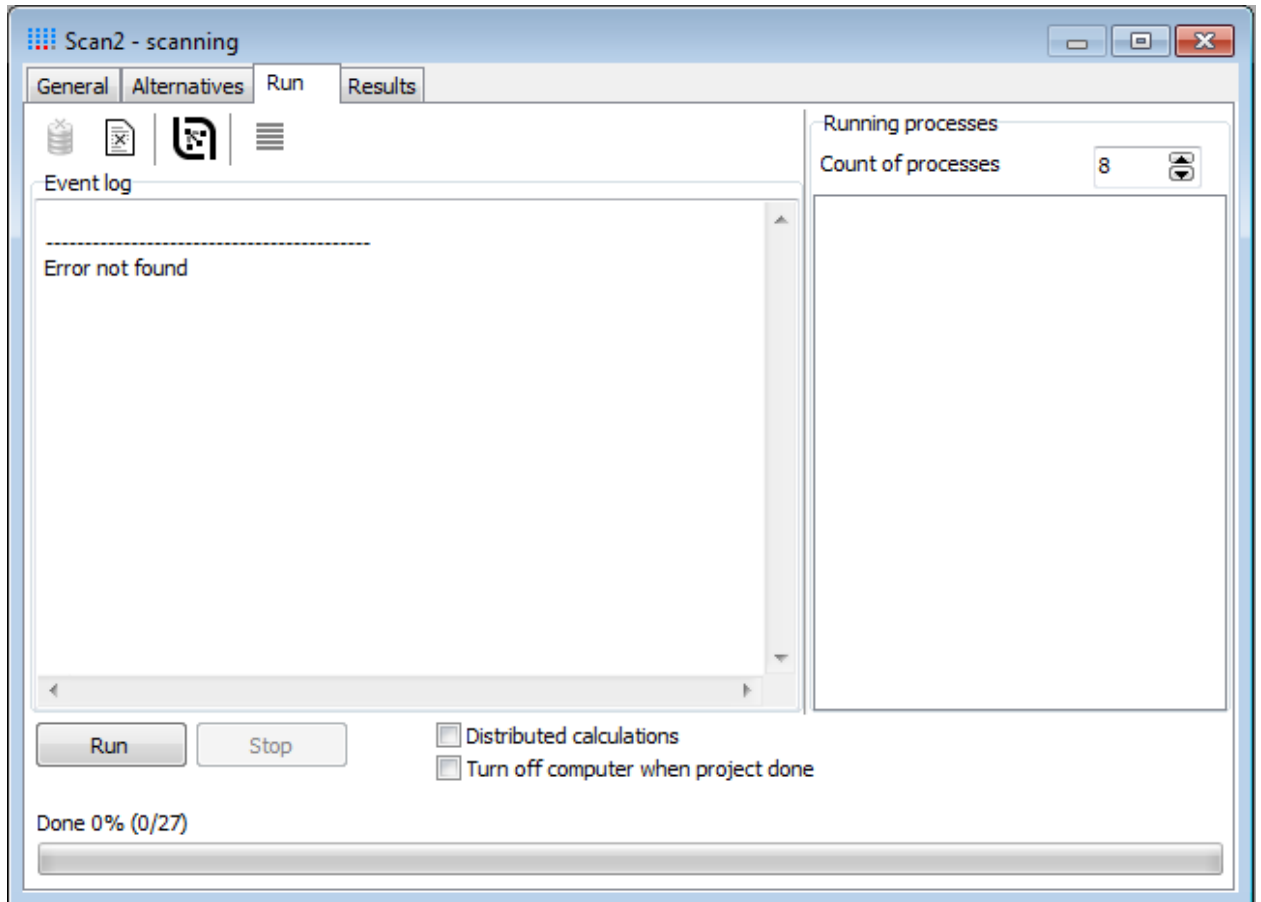

Figure 2.13. Running the scanning project
2. If you did everything in order then the **Report** contains the «**Error not found**», see Figure 2.13.